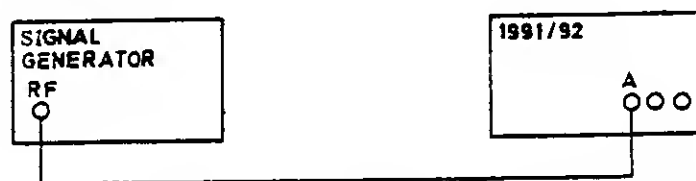

Figure 6.33 - Connections for Minimum Time Interval PVP
- Connect the test equipment as shown in Figure 6.33